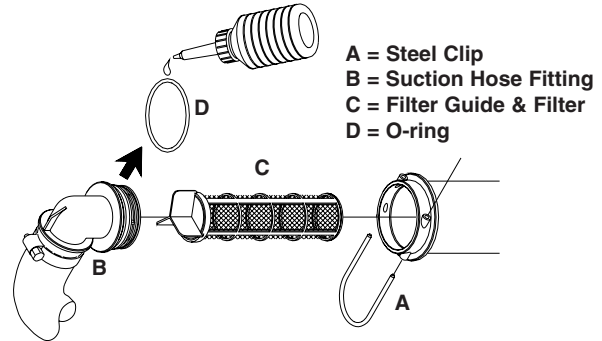

Fig 46
- 1 When Main Tank is empty, pull the steel clip (**A** Fig 46) out.
- 2 Lift suction hose fitting (**B** Fig 46) from the housing.
- 3 The filter guide and filter (**C** Fig 46) can now be removed.
- 3 Ensure the O-ring (**D** Fig 46) on the hose fitting is in good condition and lubricated.
- 4 Refit suction hose (**B** Fig 46) and steel clip (**A** Fig 46).